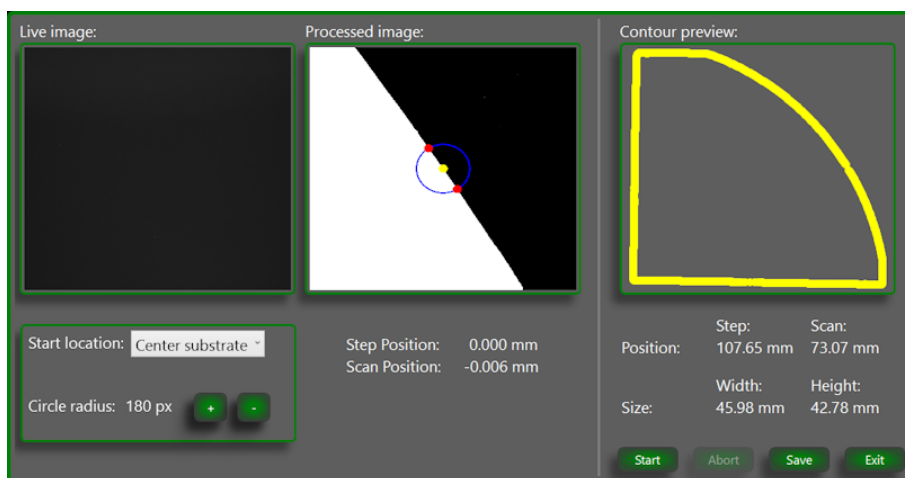

Figure 3-29 Substrate including contour scan ready
9. Wait for the contour scan to finish, see Figure 3-29.